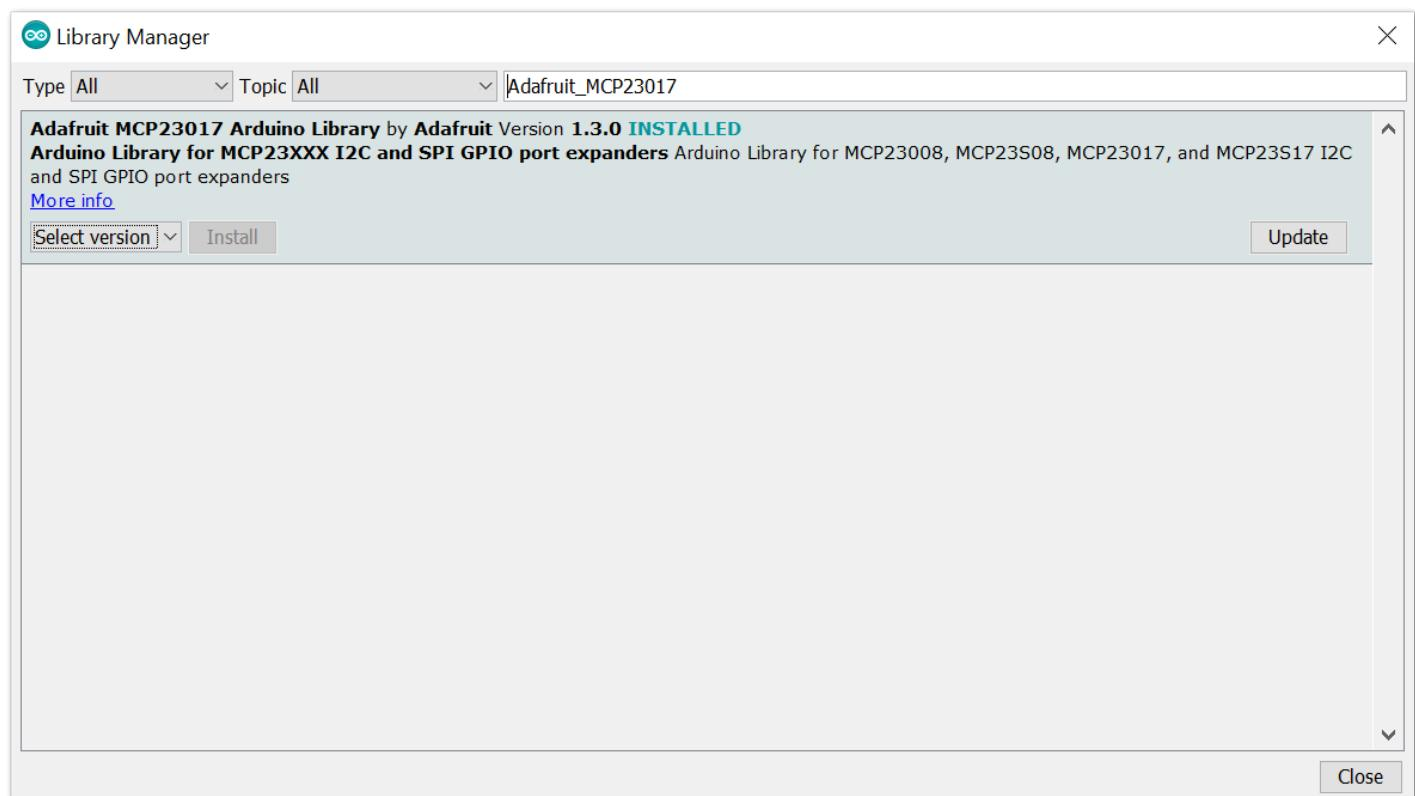

Figure 9: Selecting Version 1.3.0
4. Choose Version 1.3.0 of the library, as shown in **Figure 9**